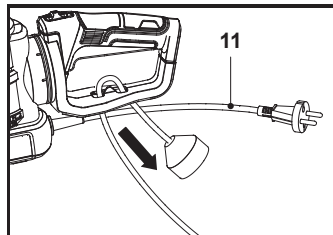

Fig. 3
2. Pull the extension cord over the cord retainer (12) and gently tug on the power cord (11) to ensure that it is firmly secured (Fig. 3).